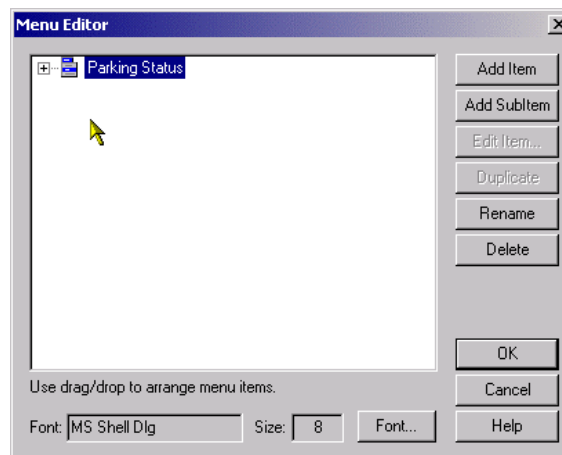

Figure 5.36
11. It is necessary to select the **Menu Editor** button so that we can setup our **Menu Items**. First select **Add Item** and type **Parking Status** as shown in Figure 5.36.